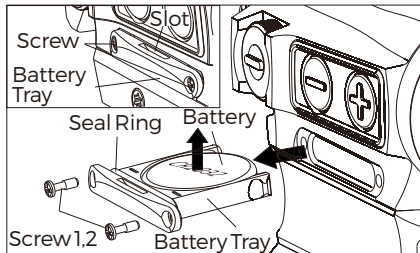

Fig 5-1
- 1) Remove the battery: (Fig 5-1)